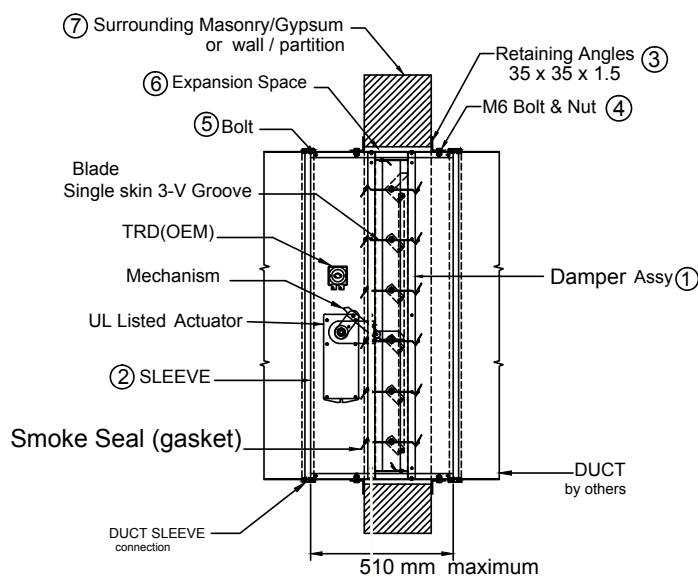

FIGURE 1
- 1) The damper (1) should be installed vertical, centrally and resting on the bottom opening within the surrounding masonry / gypsum wall (7). Actuator should be out of wall / gypsum partition as shown in (figure 1).
- 2) The damper (1) should be installed in a rectangular galvanized steel sleeve (2) with a minimum thickness of 1.1mm. This sleeve should be attached to the damper using M6 bolts (5) and spaced at not more than 110 mm centers and 30 mm from corners.
- 4) The sleeve (2) should be of suitable length to extend through the wall to enable the fitting of the cover angles and ductwork. Minimum of 90 mm from the wall and total depth of the sleeve should not exceed more than 510 mm.
- 5) The retaining angles (3) should be attached to the sleeve by 6 mm dia (4) bolts at a maximum of 110 mm centers, and should form a complete frame around the sleeve and cover over the expansion space (6) required between sleeve and wall opening. The four corner of the retaining angles are not to be welded. The bolts connecting the retaining angles to the sleeve to be 30mm maximum from the corners. Retaining angles will be send in loose parts.